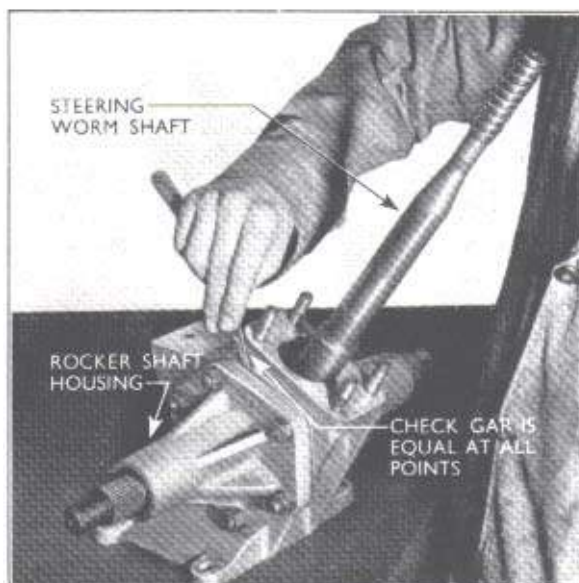

Fig. 10
3. Assemble the left-hand rocker shaft housing complete with rocker shaft and ensure that both rocker shafts engage correctly with the worm shaft. Fit the securing nuts finger tight and position the worm shaft centrally between its stops. Using feeler gauges measure the gap between the steering box and the left-hand housing ensuring it is equal at all points (Fig. 10).